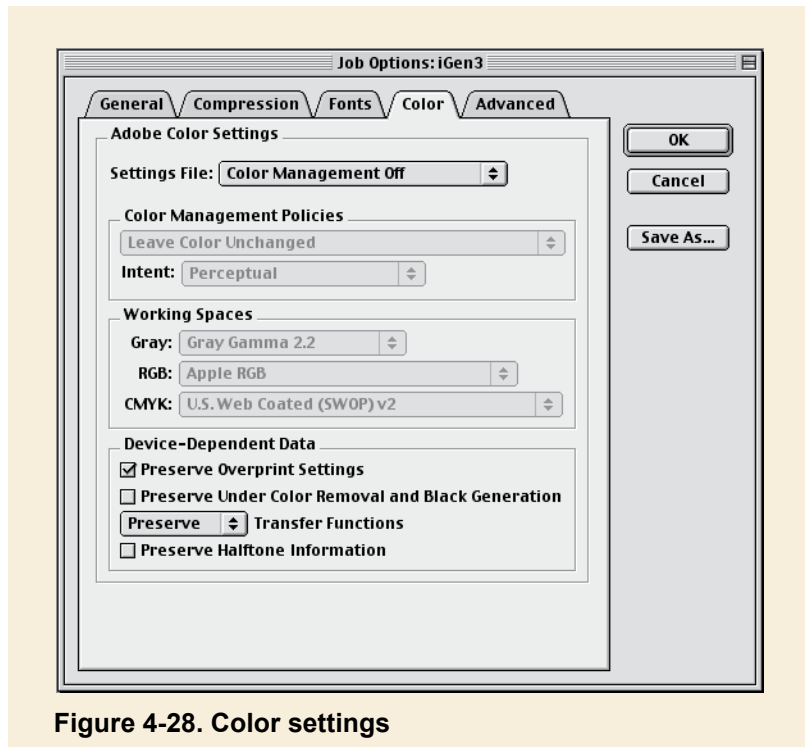

Figure 4-28. Color settings
- **Color settings** - Always set Color Management to OFF (Figure 4-28). Do not use color management in Distiller.